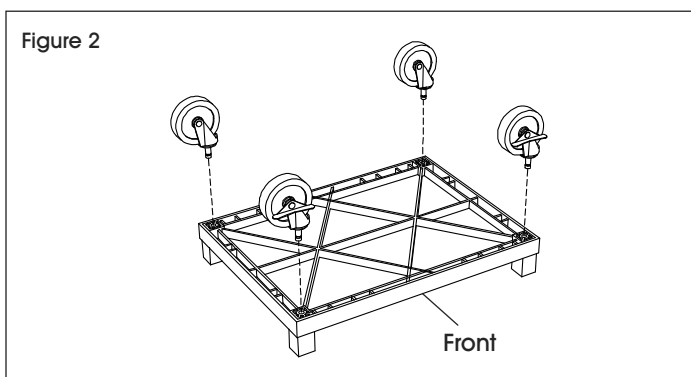

Figure 2
1. Tap the casters into the underside of the bottom shelf using a rubber mallet. Put two swivel with brake casters at the front of the cart and two swivel casters at the rear. (See Figure 2)